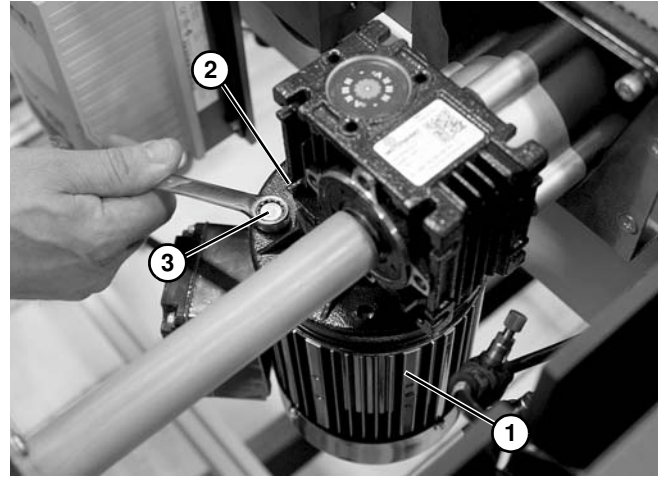

Figure 11
1. Attach the motor (**Figure 11, item 1**) to the gear reducer (**Figure 11, item 2**) with hex flange screws (**Figure 11, item 3**). Tighten screws.